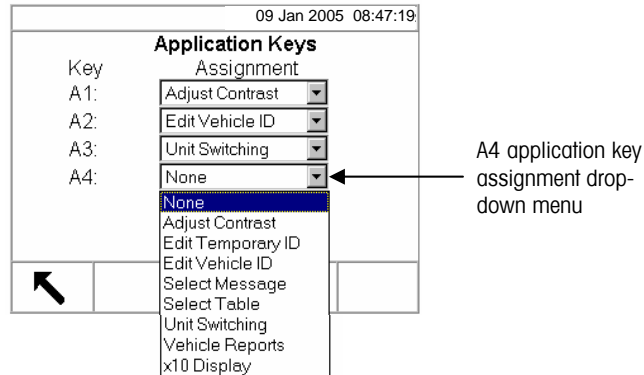

Figure F-5: Application Keys Setup Screen
2. Press the EDIT softkey.  The Softkeys/Edit screen (Figure F-5) displays. The softkey selected for editing is shown on the screen along with the current assignment and the icon associated with that assignment.